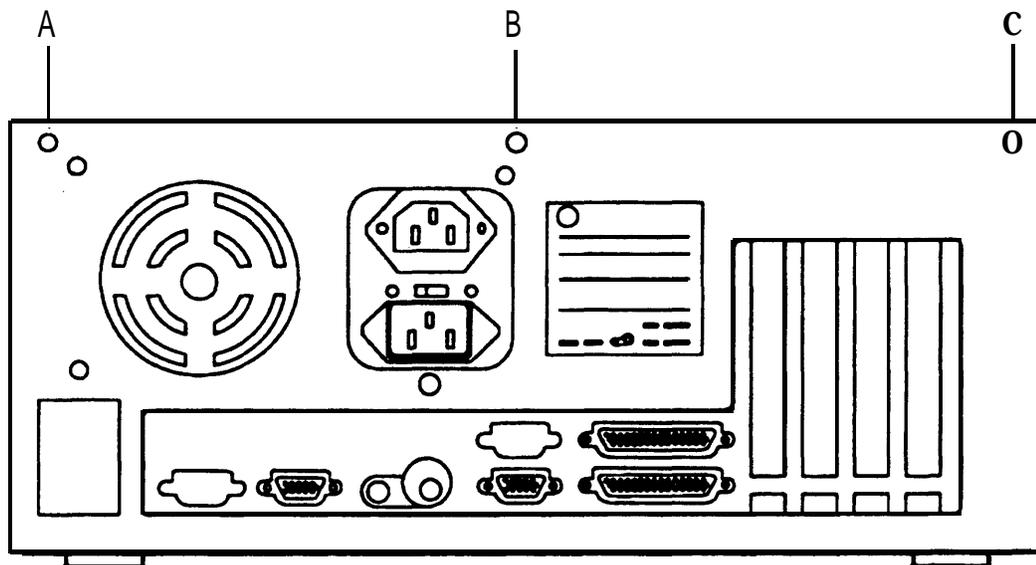

Figure 2-4. 6386/SX WGS Main Cover-Securing Screws
3. Loosen the three main cover-securing screws (**A**, **B**, and **C**) on the back panel as shown in Figure 2-4.